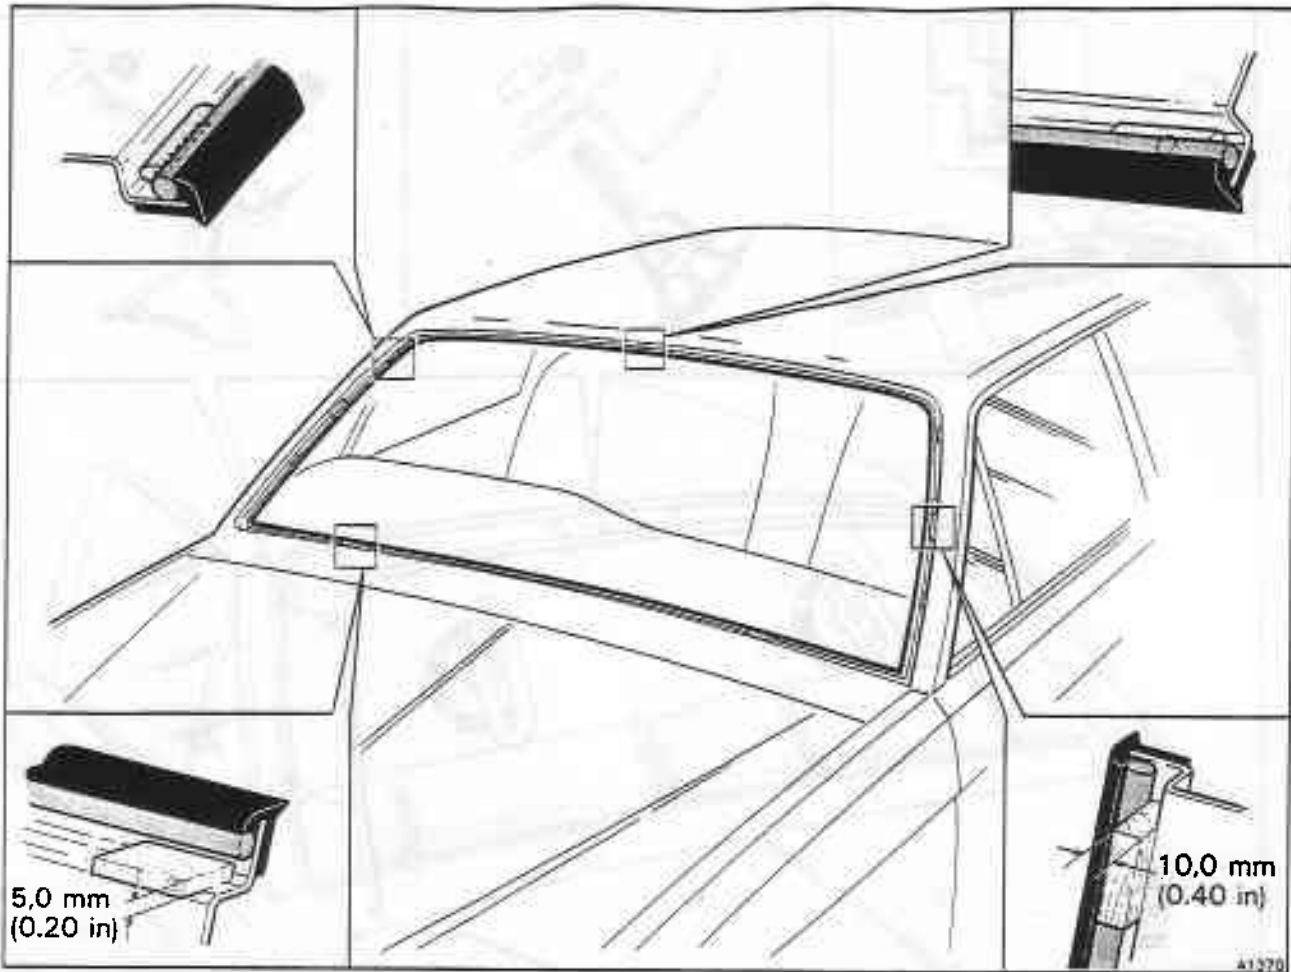

Fig. S8-4 Position of windscreen sealing compound and spacing blocks
5. Starting in the lower corner of an 'A' post, carefully unroll and press the Butyl strip lightly into position on the primed area of the windscreen aperture. Cut a separate length of Butyl strip for the lower windscreen flange, butting it against the 'A' post strips. Ensure that the Butyl strip is positioned against the spacing/finisher seal (see fig. S8-4). Do not remove the backing paper at this stage.
6. Place two 5 mm (0.20 in) thick hardwood spacing blocks into the bottom of the windscreen aperture. Also, position one 10 mm (0.40 in) thick spacing block half way up each 'A' post (see fig. S8-4).
10. Using either Arbomast Autograde sealant or Seelastik, apply four beads, each 6.40 mm (0.250 in) in diameter and 76 mm (3.0 in) long, over the retention slots in each 'A' post. Also, apply a 20 mm (0.80 in) long bead over the hole for the retention hook (see fig. S8-4).